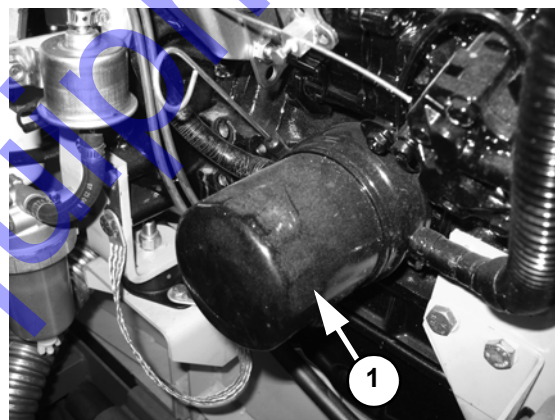

Fig. 39 - Engine Oil Filter
- Remove and discard the engine oil filter (1, Fig. 39).